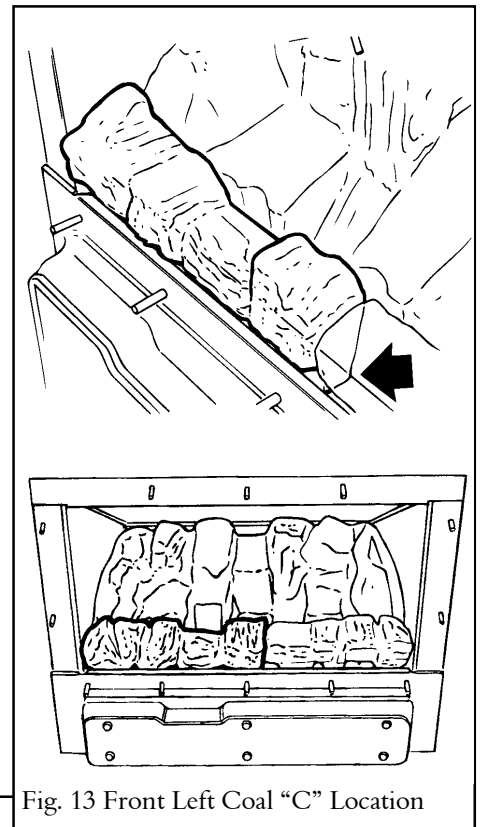

Fig. 13 Front Left Coal "C" Location
10.3 Place the front left coal (embossed 'C' underneath) in position at the side of the first coal. The flat bottom front face of the coal should rest on the metal ledge immediately behind the bottom front of the firebox opening. See figure 13.